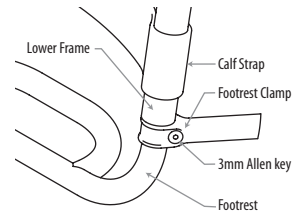

Figure 19.15 Footrest height adjustment.
- 1 Using a 3mm Allen key loosen the socket head cap screws on the clamp. (See Figure 19.15)